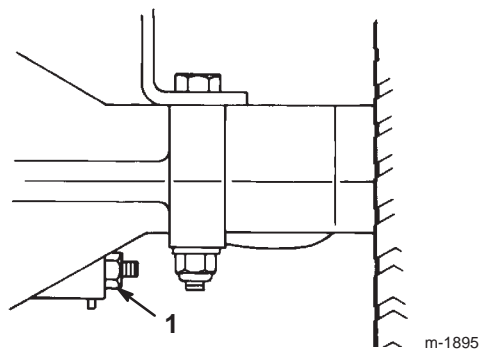

Figure 19
The brake is on the right side of the rear axle, inside the rear tire (Fig. 19). If the parking brake does not hold securely or has insufficient stopping power, adjust it.
2. To increase the braking resistance, tighten the brake adjusting nut (Fig. 19) 1/8 turn clockwise.